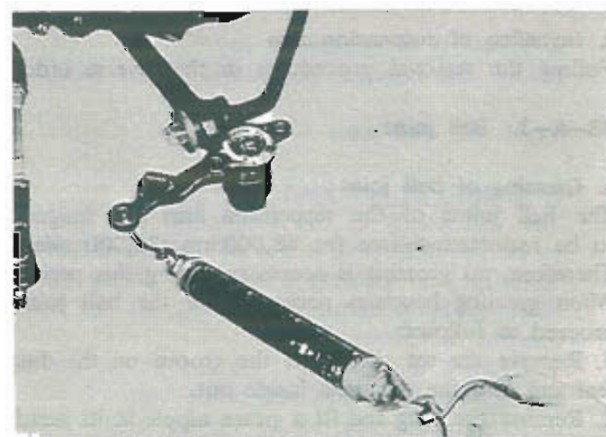

Fig. 13-45 Checking of revolving torque
5. Refer to Par. 13-A-3 and check the ball joint revolving torque with a pull scale, as shown in Fig. 13-45. The revolving torque is $6 \sim 11 \text{ kg}$ ($13.2 \sim 24.2 \text{ lb}$).